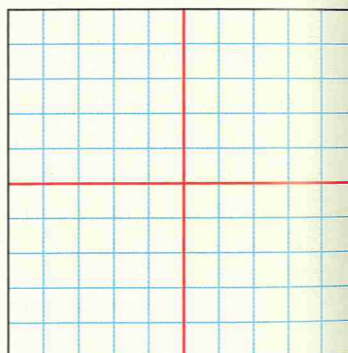

Figure 9.15
- e) On your copy, sketch the dc voltage signal that would produce the same power dissipation in a resistor, of resistance R , equivalent to that produced by the signal generator. (2)
- a) State what is meant by the 'peak value' and show how this value is related to the root mean square (r.m.s.) value. (2)
b) Calculate the r.m.s. voltage. (2)
c) A light bulb is connected to the mains supply in the USA and draws an r.m.s. current of 0.50 A. Calculate the mean power of the bulb. (1)
d) Using a suitable set of axes, sketch the voltage waveform of mains electricity in the USA. Include suitable numerical scales on your sketch graph. (4)
- 13 A student is using an oscilloscope to measure the voltage from a range of different voltage sources. She connects the voltage sources to the y-input of the oscilloscope. The y-gain of the oscilloscope is set to 0.5 V/div, and the timebase is set to 4 ms/div. The screen of the oscilloscope is divided into a 10 × 10 grid as shown in Figure 9.15.